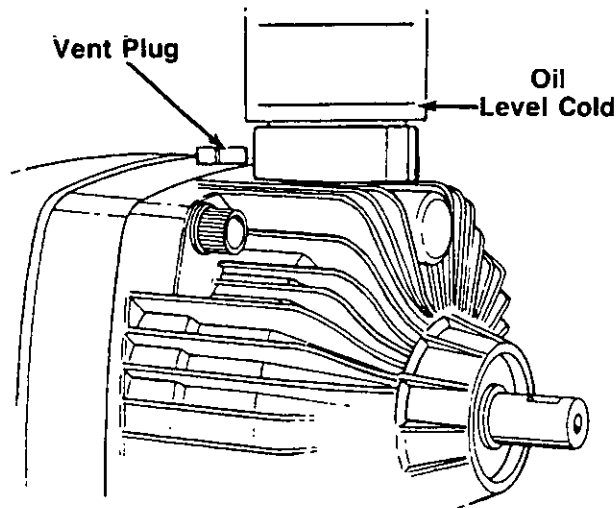

FIGURE 17.
The transmission fluid level should be checked prior to initial use. The level should not be above the COLD mark which is about  $\frac{1}{4}$ " from the bottom of the reservoir/expansion tank. See figure 17.
3. Check the oil level in the reservoir/expansion tank. See figure 17.